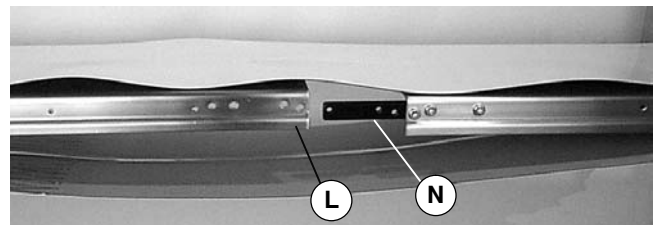

Figure 6
4. Place conveyor frame (L of Figure 6) into belt loop.